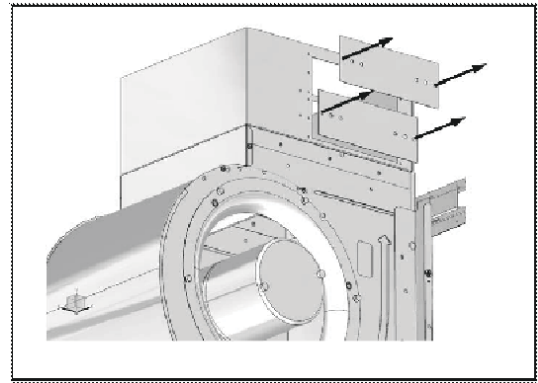

Fig. 5 – Heater Collar Cover Plate Removal
4. Remove the heater collar cover plate(s) (see Fig. 5)